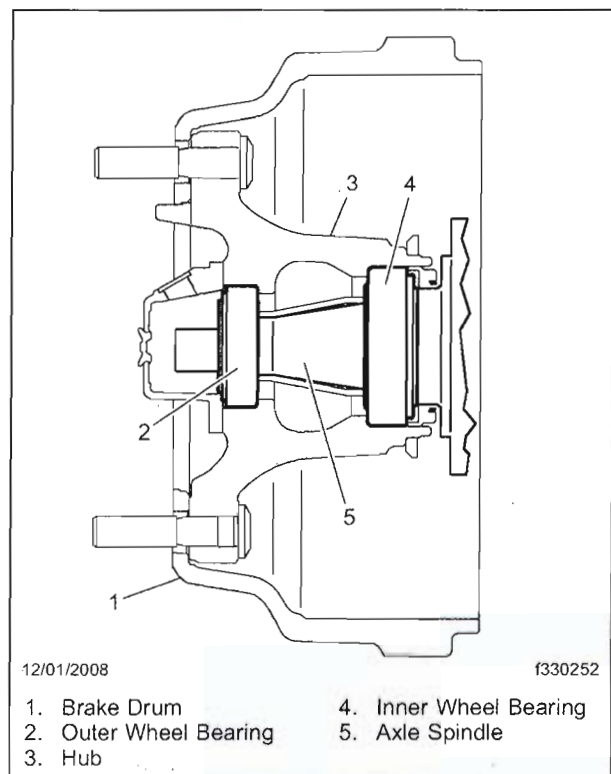
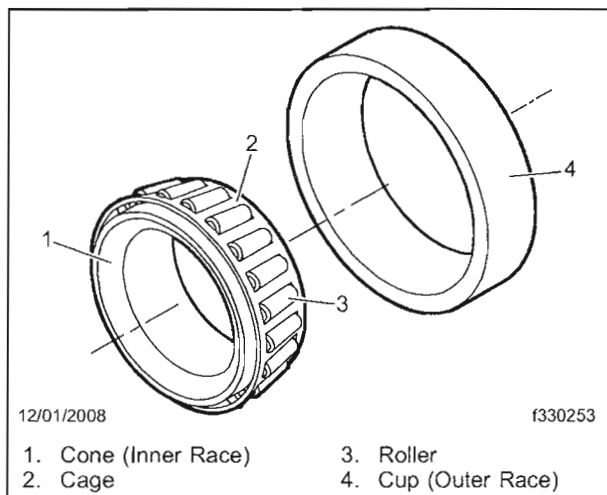

Fig. 8, Bearings Between the Hub and Axle Spindle
Fig. 9, Wheel Bearing
5. Seat the bearings. There are two roller bearings between the hub and the axle spindle, each of which consists of four basic parts: the cone (inner race), cage, rollers, and cup (outer race). See **Fig. 8** and **Fig. 9**. To achieve the correct end play, the rollers must be rolled into position against the large rib of the cone as follows.